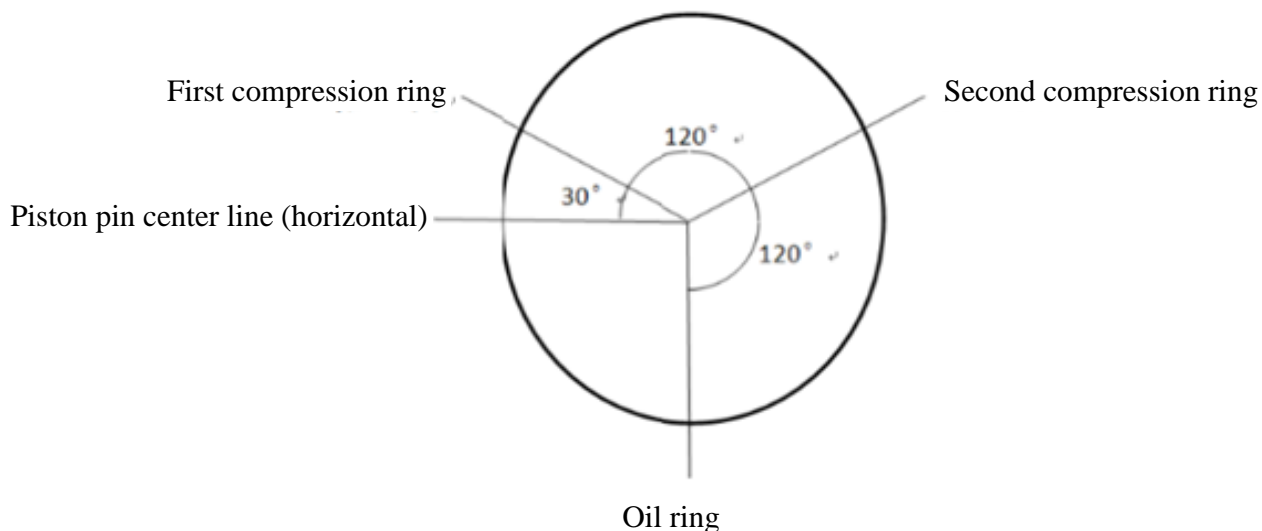

Fig. 4-35 Schematic diagram for installation of piston rings
- (1) Install one circlip into piston circlip groove with internal circlip plier, and rotate the circlip to ensure it is properly fitted. The end with corner angle should face inward, and its opening should be upward.
- (2) Insert small end of connecting rod into piston inner cavity and align it to piston pin holes, and then install piston pin, finally install the other circlip to the other side of the piston. Note that connecting rod oblique incision and piston cooling oil gallery inlet should be in the same direction, apply proper clean lubricating oil on connecting rod small end hole and piston pin.
- (3) Arrange the assembled piston-rod assembly in cylinder number order, and then install oil ring, second compression ring and first compression ring into piston ring grooves orderly with piston ring plier. The face with mark “TOP” should be upward, and the ring should be flexible in ring groove.
- (4) Clean up cylinder inner wall, crankshaft connecting lever and piston-rod assembly, and apply clean lubricating oil on each motion pair.
- (5) Adjust opening direction of each ring: The opening direction of first compression ring should be 30° to piston pin center line, opening direction of the second compression ring should be 120° to that of the first compression ring, and opening direction of oil ring should be 120° to both that of first compression ring and second compression ring, also should be perpendicular to piston pin center line. As shown in Fig. 4-35.